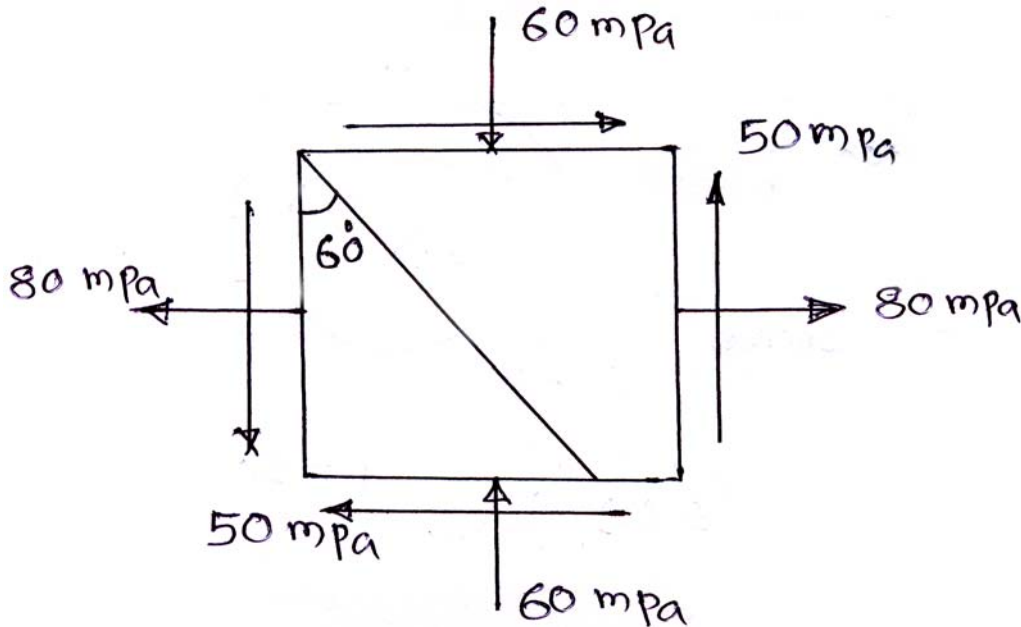

Fig. 7 (a)
7. a) Find normal and shearing stress on the oblique plane as shown in fig. 7(a). 8